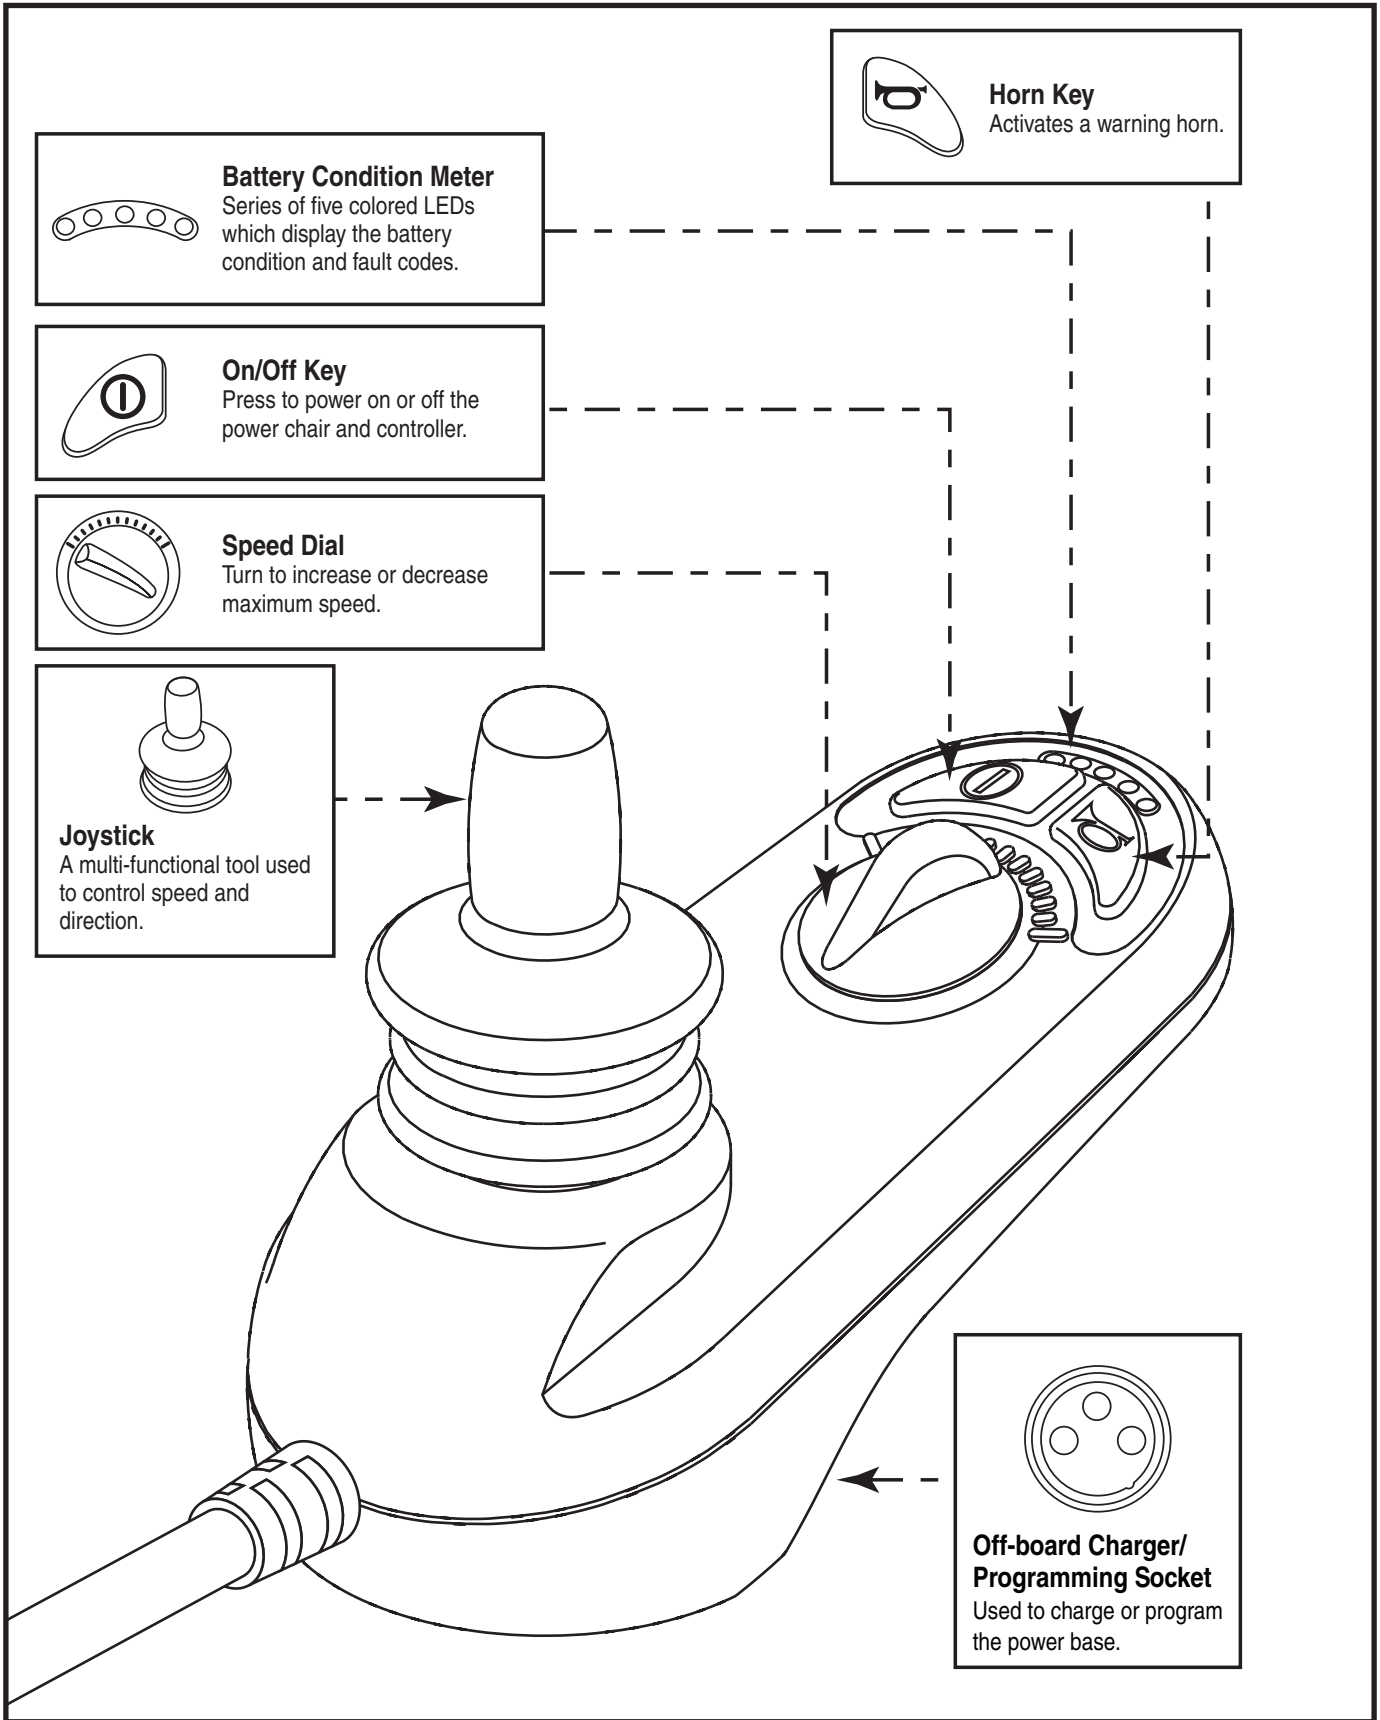

Figure 1. GC3 Components and Connections
**Figure 1** provides information on the GC3 components and connections. Use this diagram to familiarize yourself with the function and location of each component before using the GC3 controller.
The battery condition meter consists of five LEDs arranged in an arch over the on/off and horn keys. **See figure 1.** When functioning as the battery condition meter, this indicates the status of the electrical system using LED codes. For example, as the battery voltage drops, the number of LEDs reduces from right to left. When the battery capacity drops to 10% or below, the left red LED will flash.